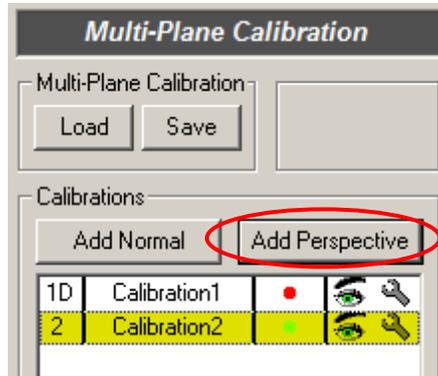

Figure 7. Multi-Plane Calibration control panel
6. Click the **Image Calibration**  button to open the Multi-Plane Calibration control panel, as shown in Figure 7.